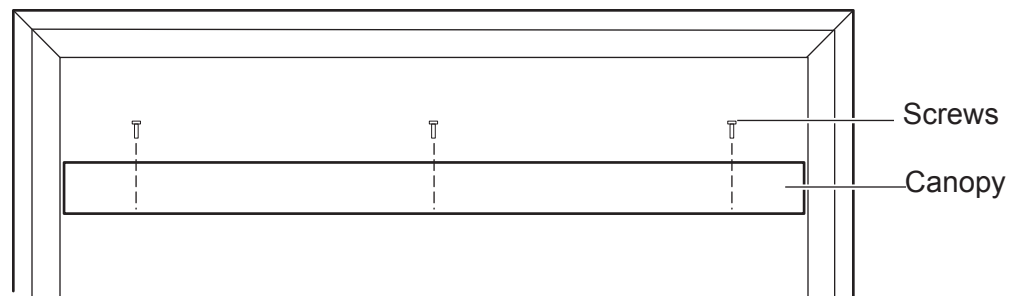

Figure 15 - Canopy Installation
2. Align the black canopy with the holes in the top frame assembly. *See Figure 15.*
3. Install the three (3) screws (in owner's manual packaging) which attach the canopy to the top frame assembly. *See Figure 15.*